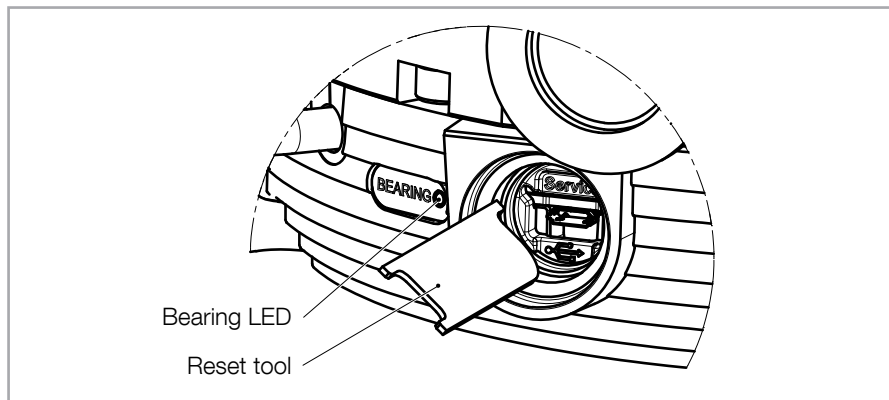

Fig. 5.1 Use the reset tool
- by pressing the push button (located behind the service cover, see Fig. 5.1) for 2s on the pump, or